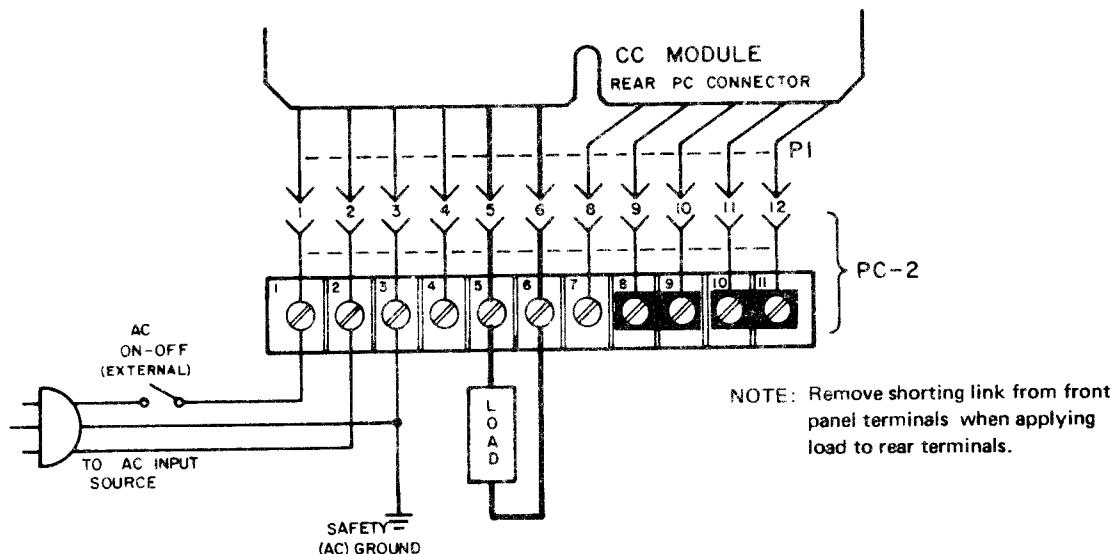

FIG. 3-2 REAR TERMINATIONS FOR STANDARD LOCAL OPERATION.
- 3-6 With the CC rear PCB connector terminated either with a simple mating connector, the PC-2 plug-in adaptor (rack-mounted) or a case adaptor, the unit may be connected to the a-c power source and is ready for operation. The load may be connected to the rear barrier-strip or the front terminals. Standard jumper-link connections are shown in FIG. 3-2 below. Links and load connections must be tight and secure for proper operation. If no external load is connected, the output terminals must be shorted by link or other connection to provide a path for the current.
- 3-7 The connection diagrams in this section (see FIG. 3-2) show the barrier-strip terminations on the plug-in adaptor (part of any cased unit) and on the equivalent PC-2 adaptor (part of any rack-mounted unit). If the uncased unit is to be terminated by the mating connector for the printed circuit plug (P1) only, the jumper links shown on the barrier-strip adaptor (PC-2) must be duplicated by wire jumpers on the mating jack for the rear PC connector (P1).